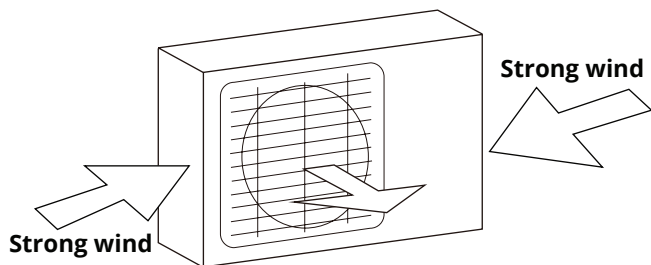
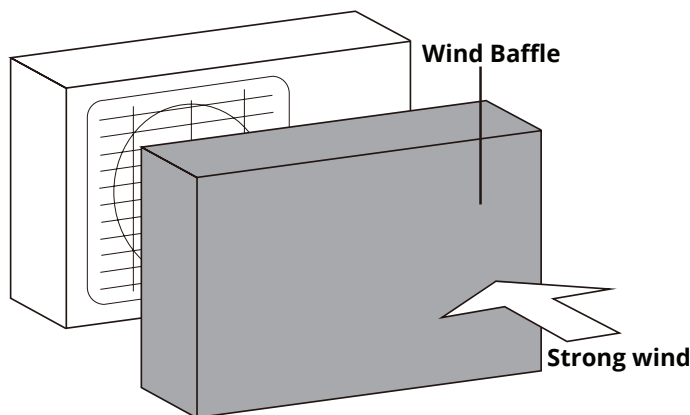

Fig. 6.2
Fig. 6.3
**If the unit is exposed to heavy wind:** Install the unit so the air outlet fan is at a 90° angle to the direction of the wind. If needed, build a barrier in front of the unit to protect it from extremely heavy winds. Ensure the wind barrier does not block necessary airflow. See Fig. 6.2 and Fig. 6.3 below.